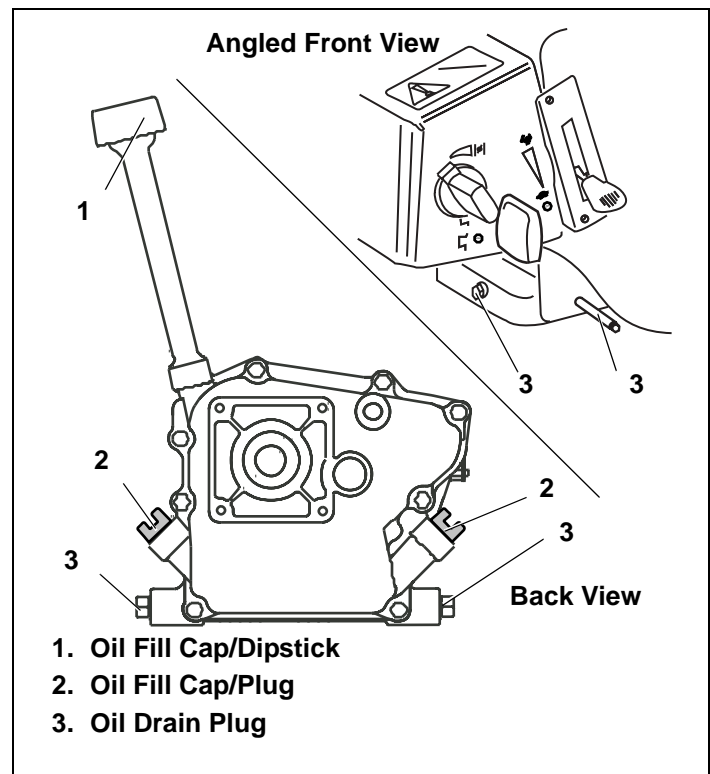

Figure 9. Oil Fill/Drain Locations
2. Clean area around oil fill cap/plug. See Figure 9.